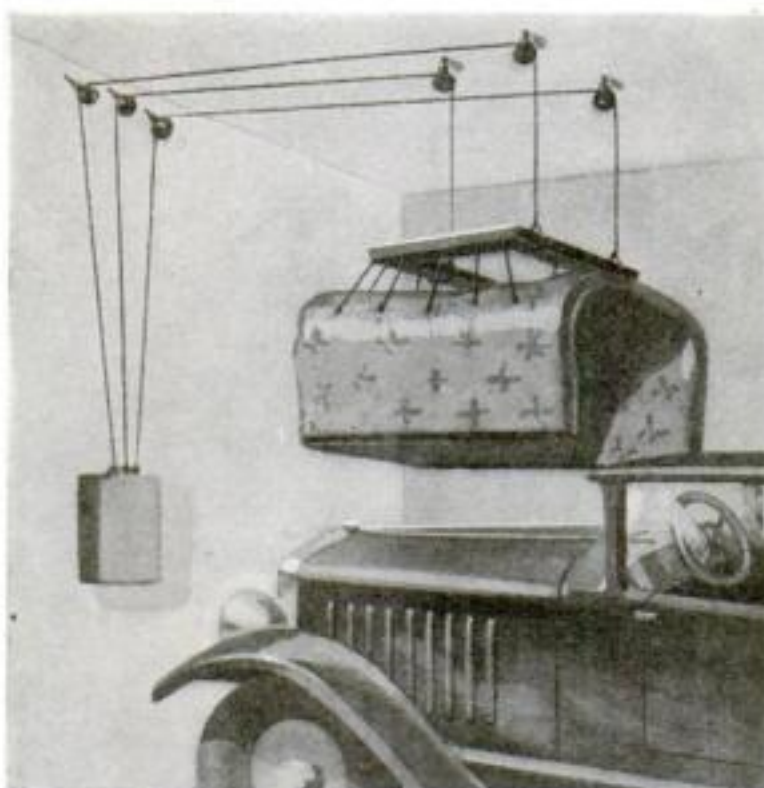

Fig. 1. When the car is put to bed, this thick hood quilt, lowered from the ceiling as shown, keeps the engine warm.
**I**F THE car is kept in an unheated garage, a motor cover arranged as shown in Fig. 1 will promote easy starting in many cases. Of course it will do no good if the car is not used for days at a time, but if it is operated daily, enough heat will remain in the motor overnight to make it start easier. Use a wooden frame from which to suspend a very thick hood cover made of old blankets and quilting. The counterweight should be heavy enough so that the cover will stay either down or up as desired; in other words, it should exactly equal the weight of the frame and the hood cover.